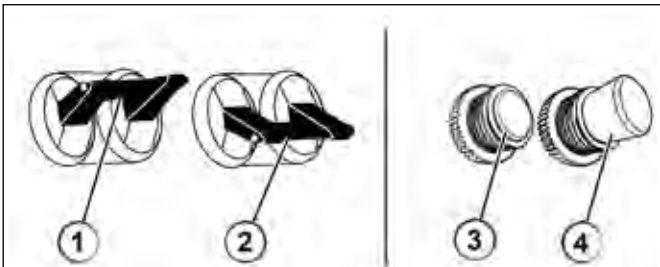

Figure 6 - Breakers
3. Make sure the circuit breakers are properly set (see Figure 6 below).
3. Make sure the circuit breakers are properly set (see Figure 6).